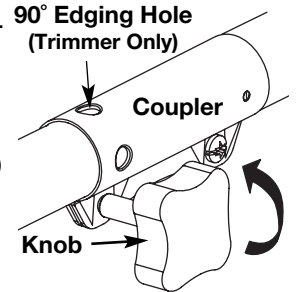
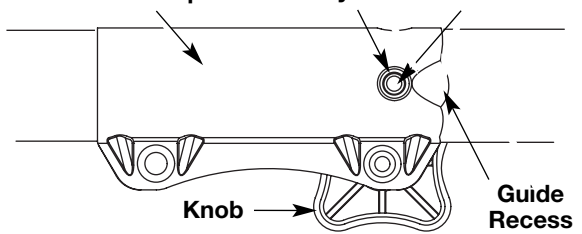
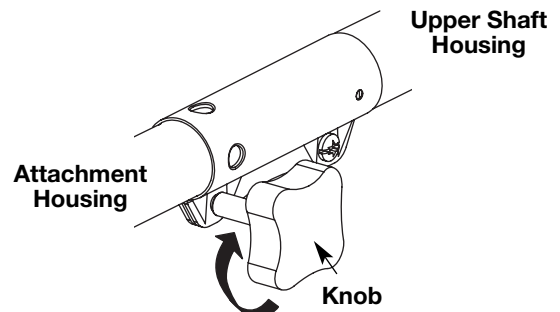

Fig. 11
Fig. 12
Fig. 13
1. Turn knob counterclockwise to loosen coupler (Fig. 11, p. 8).
2. While firmly holding attachment, push it straight into the coupler until the release button snaps into the primary hole (Fig. 12, p. 8).
NOTE: Aligning the release button with the guide recess (Fig. 12, p. 8) will help installation.
3. Turn the knob clockwise to tighten (Fig. 13, p. 8).
2. Turn the knob counterclockwise to loosen coupler (Fig. 11).
3. Push in the release button (Fig. 12) and twist the shaft 90° until the release button snaps into the 90° hole (Fig. 11).
4. Turn the knob clockwise to lock the coupler (Fig. 13).
CAUTION: Before operating this unit, be sure that the release button is fully snapped into the primary hole (Fig. 12), and that the knob (Fig. 13) is securely tightened.
2. Turn the knob counterclockwise to loosen the coupler (Fig. 11).
3. While firmly holding the add-on, push it straight into the coupler until the release button (Fig. 12) snaps into the primary hole (Fig. 12). The primary hole is on the opposite side of the coupler from the knob (Fig. 12). Align the release button with the Guide Recess (Fig. 12) to help installation.
4. Turn the knob clockwise to tighten (Fig. 13).
3. Press and hold the release button (Fig. 12).
4. While firmly holding the upper shaft housing (Fig. 13), pull the attachment out of the coupler.